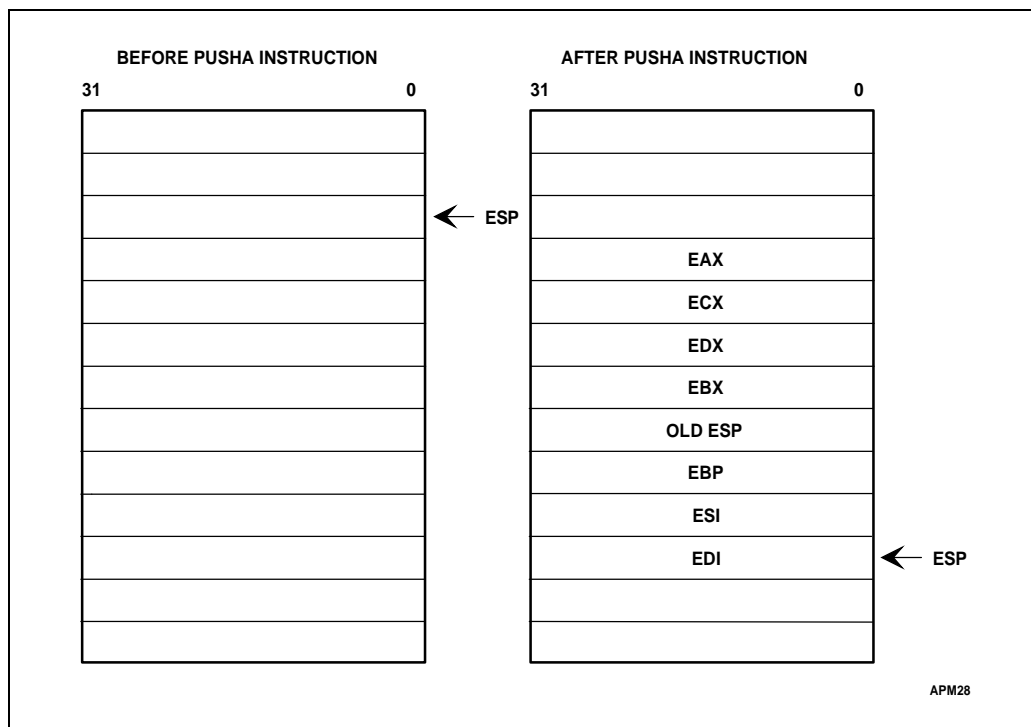

Figure 4-2. PUSHA Instruction
**PUSHA (Push All Registers)** saves the contents of the eight general registers on the stack (see Figure 4-2). This instruction simplifies procedure calls by reducing the number of instructions required to save the contents of the general registers. The processor pushes the general registers on the stack in the following order: EAX, ECX, EDX, EBX, the initial value of ESP before EAX was pushed, EBP, ESI, and EDI. The effect of the PUSHA instruction is reversed using the POPA instruction.